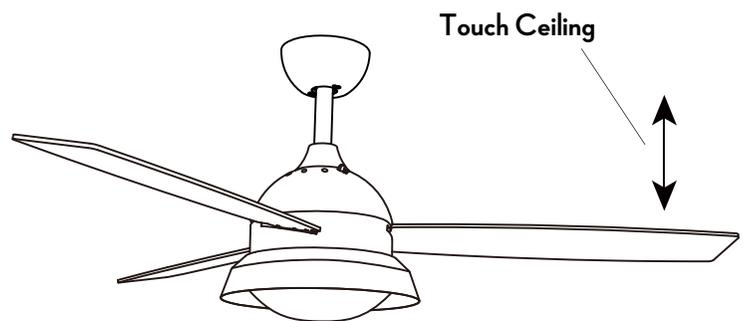

Figure 14
- Most fan wobble problems are caused when blade levels are unequal. Check this level by measuring the distance from the tip of one blade to the ceiling as shown in Figure 14. Rotate the fan until the next blade is positioned in the same place as the previous blade and measure again. Repeat for each blade. Measurements should be within 1/8 in.
Excessive Wobbling.	<ul style="list-style-type: none">□ Make sure that screws which attach fan blade holders to motor are fastened and tightened.□ Tighten screws of fan blade to blade holder securely.□ Ensure that canopy and mounting bracket are tightened securely to ceiling joist.□ Check by selecting a point on the ceiling above the tip of one of the blades. Measure this distance and ensure all blades are even (see Fig. 14).